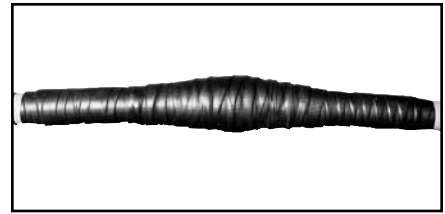

Figure 9
2. The high-voltage insulating tape should be applied half-lapped, introducing uniform stretch as specified by the tape manufacturer. (Figure 9)